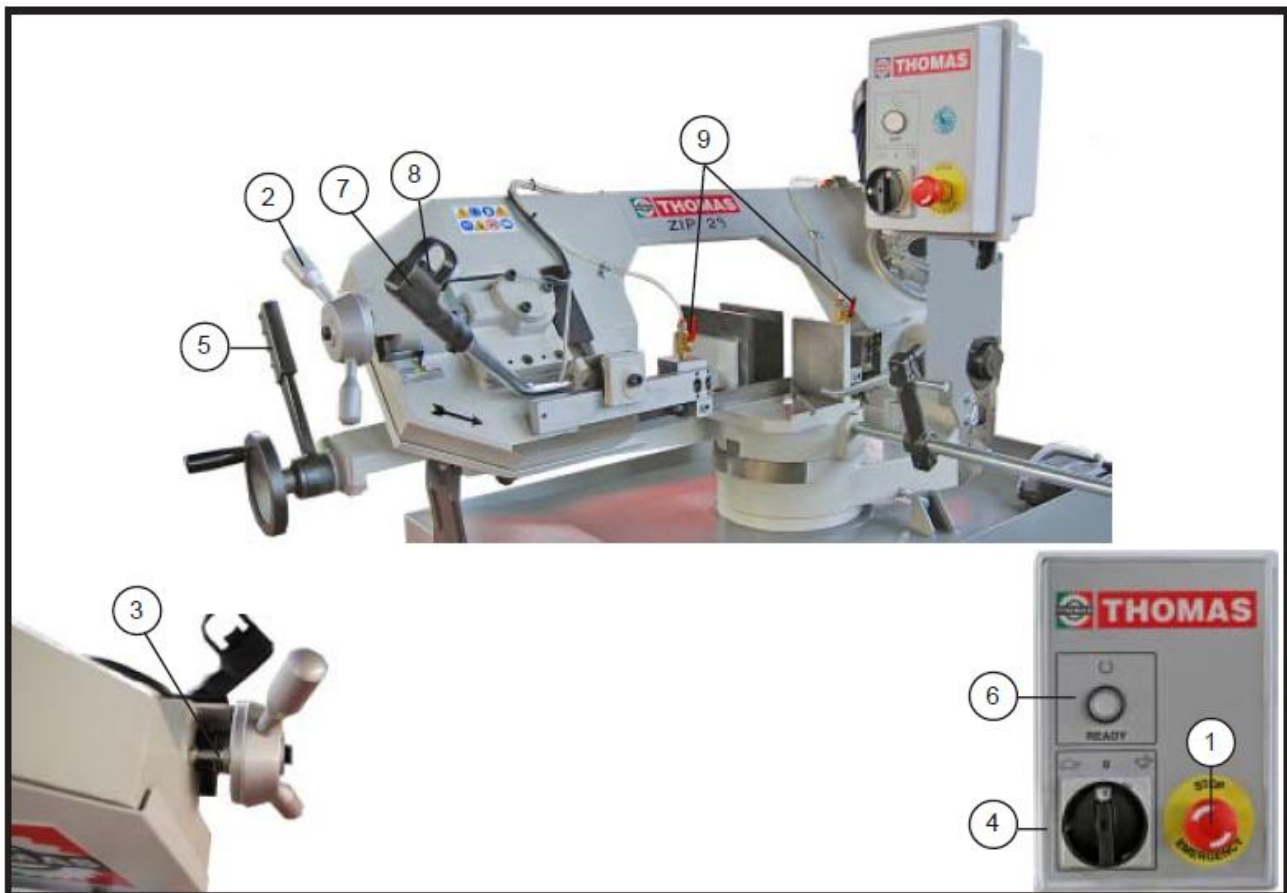

Fig. 12-11
- a) Make sure that the emergency push-button (1 fig. 12-11) is released; if it is still engaged the machine will not start.
- b) Turn the blade tension hand wheel (2 fig. 12-11) clockwise until the safety micro-switch button is pressed down. Select blade speed on the commutator (4 fig. 12-11):
- c) Load the stock material and approach the vice jaw to 3 - 4 mm from the material to cut. Pull the quick lever (5 fig. 12-11) to lock the material to cut in the vice firmly.
- d) Press the luminous push-button (6 fig. 12-11) to energize the machine.
5. Grab the lever (7 fig. 12-11) and press the trigger switch (8 fig. 12-11).: make sure that the blade turns in the sense shown by the arrow (1 fig. 11-11). If it does not, swap the cables from the power supply.
- e) Open the coolant liquid taps (9 fig. 12-11) and make sure the liquid flows through the blade-guide blocks on the material to cut. Coolant liquid is an emulsion of water and 5% cutting oil.
When you stop using the machine, let the sawframe raise to the top position and release blade tension by turning the hand wheel (2 fig. 12-11) anti-clockwise to avoid loss of blade flexibility.